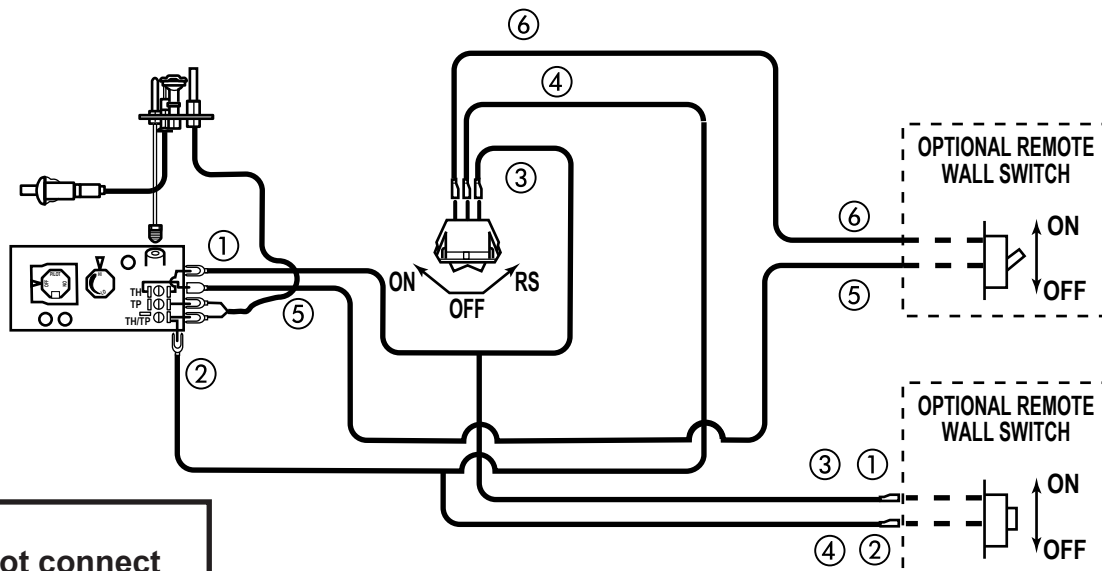

Figure 40 - Wiring Diagram for Wall Switch
A remote wall switch and up to fifteen (15) feet of 18 Ga. wire may be used with this appliance. Attach the wall switch in a junction box at the desired location on the wall. See Figure 40. Do not extend beyond the wall switch wire length provided.